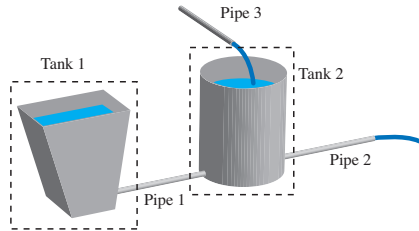

Figure 1.21: A situation sketch is part realistic, part abstract. It shows the system in its environment and may contain details concerning system sizes, etc.
1. Draw a situation sketch. Create a sketch of the system to be investigated, and its environment. The sketch should be half realistic, and can contain information about the sizing of the system and its parts (Fig. 1.21).